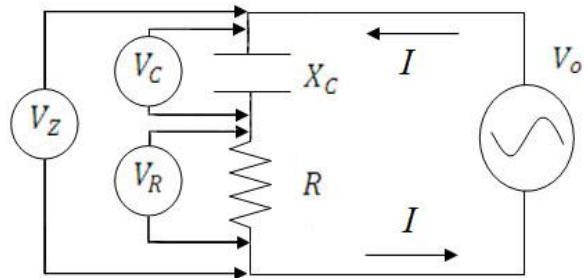

Figure 2 – Circuit to determine resistance and reactance of an unknown RC circuit.
- **Q3: Apply the following values to the circuit in Fig. 2: $X_C = 300 \Omega$, $R = 150 \Omega$, and $V_0 = 1 \text{ V}$. Use these values and the equations above to find the total impedance Z , the current I , and the voltages across each component. Draw a phasor diagram showing the voltages in the circuit V_C , V_R and V_Z , and the current I so that the tail of each vector is at the origin of an x-y axis (vector magnitudes should be correct relative to each other but an exact scale is not necessary). Identify the phase angle ϕ .**